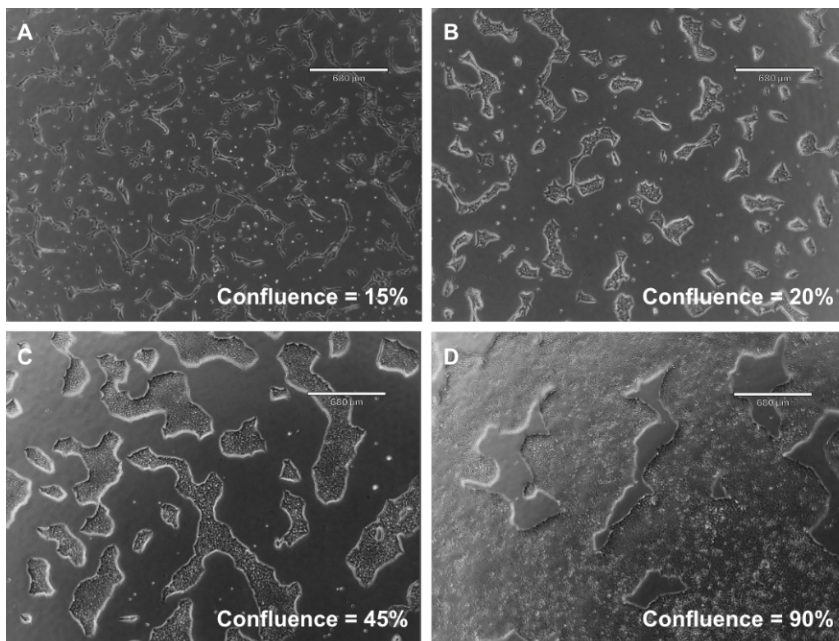

Figure 1: Example of brightfield images of healthy iPS cells at various time points post thaw.
A = 24 hours; B = 48 hours; C = 72 hours; D = 96 hours. Images captured are of an internally banked parental PGP-1 cell line at passage 27. Frozen iPS cells are thawed and plated in cell growth medium containing iMatrix511, and in the presence of Rock inhibitor (Figure 1A). After 24 hours of culturing, Rock inhibitor is removed and attached iPS cells grow (Figure 1 B, C, D). In time, healthy iPS cells become more confluent until they reach 80-90% confluency at around 96 hours post-thawing (Figure 1D) at which point they can be passaged. (scale bar 680 µm)
- Ensure your iPS cells have completely recovered from thawing, look healthy and are proliferating at a normal rate (see Figure 1).